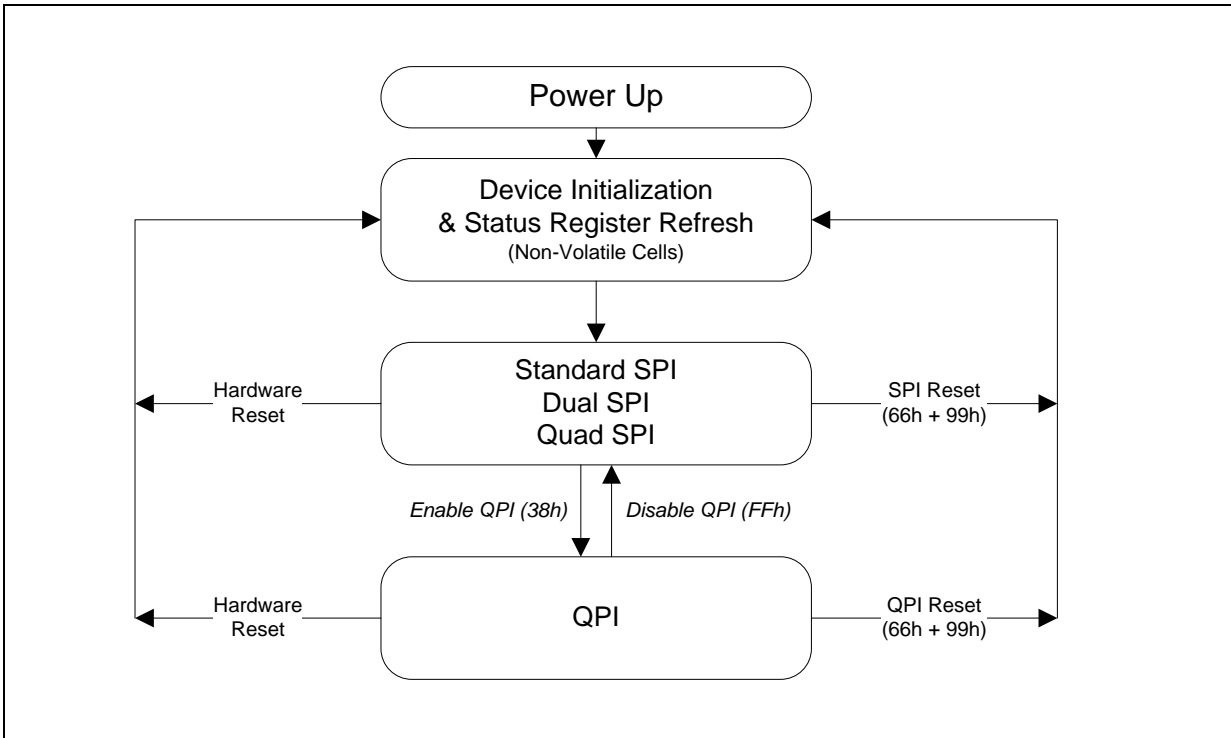

Figure 3. W25Q32JW Serial Flash Memory Operation Diagram
The W25Q32JW supports Quad Peripheral Interface (QPI) operations only when the device is switched from Standard/Dual/Quad SPI mode to QPI mode using the “Enter QPI (38h)” instruction. The typical SPI protocol requires that the byte-long instruction code being shifted into the device only via DI pin in eight serial clocks. The QPI mode utilizes all four IO pins to input the instruction code, thus only two serial clocks are required. This can significantly reduce the SPI instruction overhead and improve system performance in an XIP environment. Standard/Dual/Quad SPI mode and QPI mode are exclusive. Only one mode can be active at any given time. “Enter QPI (38h)” and “Exit QPI (FFh)” instructions are used to switch between these two modes. Upon power-up or after a software reset using “Reset (99h)” instruction, the default state of the device is Standard/Dual/Quad SPI mode. To enable QPI mode, the non-volatile Quad Enable bit (QE) in Status Register-2 is required to be set. When using QPI instructions, the DI and DO pins become bidirectional IO0 and IO1, and the /WP and /HOLD pins become IO2 and IO3 respectively. See Figure 3 for the device operation modes.